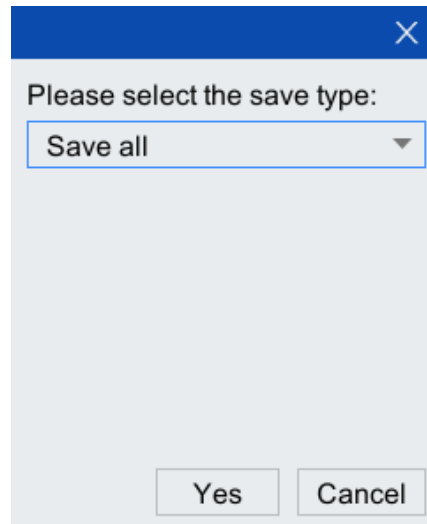

Figure 4-17 Save as type dialog
Step3. After the parameter configuration is completed, click <Save>, and the dialog box shown in Figure 4-17 will pop up. Select "Save all" in [Please select save type], and click <Yes>.